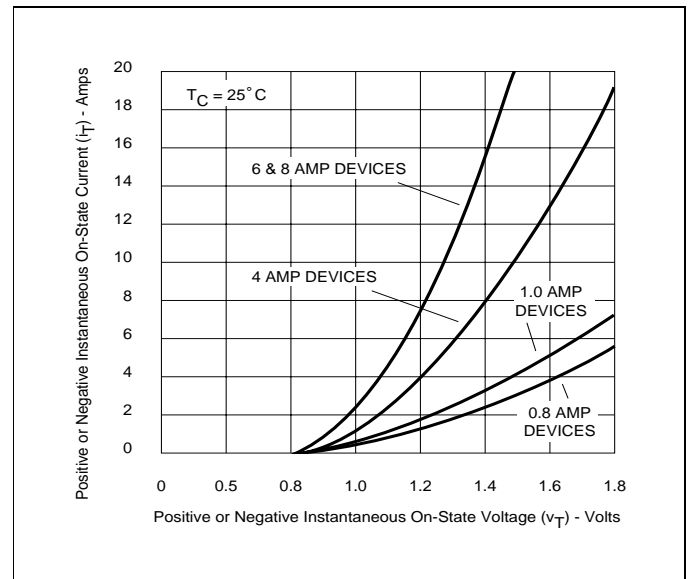

Figure 1.4 On-State Current vs On-State Voltage (Typical)
- See Figure 1.4 for i_T vs v_T .